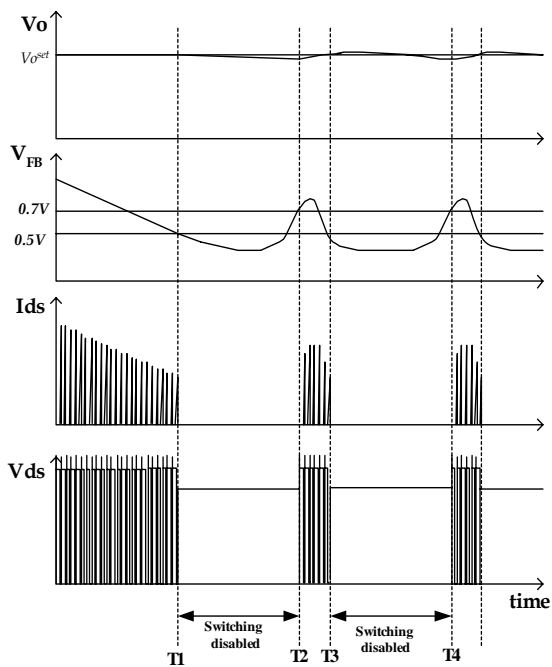

Figure 8. Waveforms of burst operation
5. Burst operation : In order to minimize power dissipation in standby mode, the FSDM0565RB enters burst mode operation. As the load decreases, the feedback voltage decreases. As shown in Figure 8, the device automatically enters burst mode when the feedback voltage drops below V_{BURL} (500mV). At this point switching stops and the output voltages start to drop at a rate dependent on standby current load. This causes the feedback voltage to rise. Once it passes V_{BURH} (700mV) switching resumes. The feedback voltage then falls and the process repeats. Burst mode operation alternately enables and disables switching of the power Sense FET thereby reducing switching loss in Standby mode.